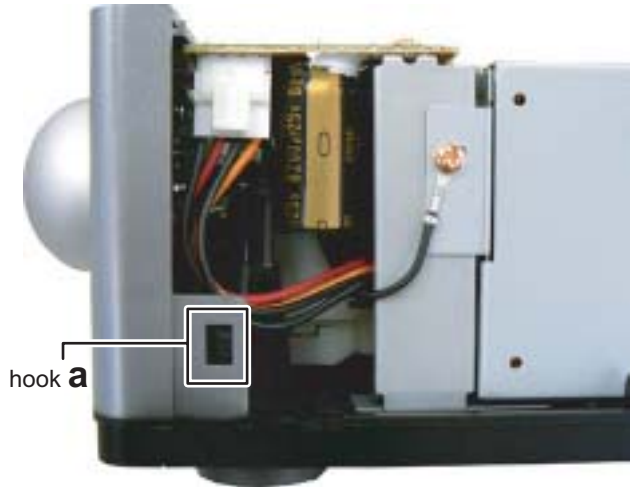

Fig.7
- (3) Disengage two hooks **a** engaged both side of the Front panel. (See Fig.7)